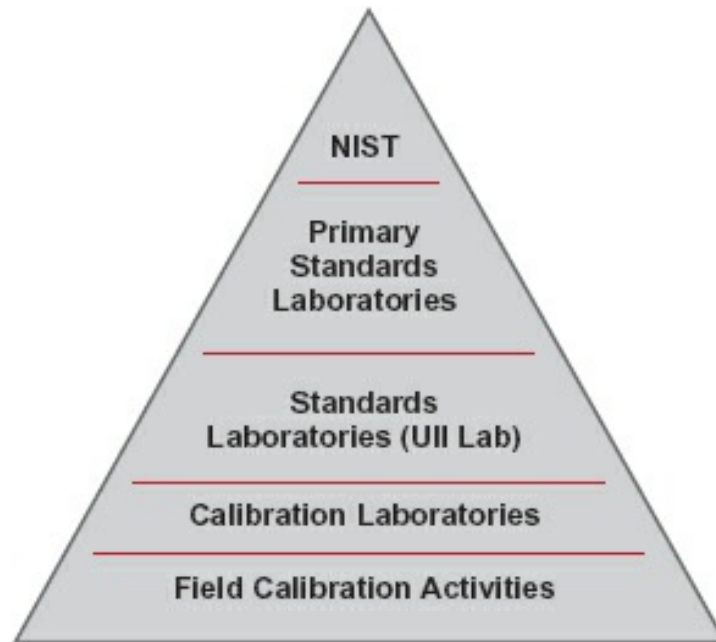

Figure 3-26. Hierarchy of US standards.
There is a recognized hierarchy of US standards, as shown in Figure 3-26. Primary (US) standards are kept by NIST for the United States. Other countries have their own laboratories and storage locations, all of which are linked to l'Organisation internationale de normalization (ISO—also known as the International Organization for Standardization) in Geneva, Switzerland.